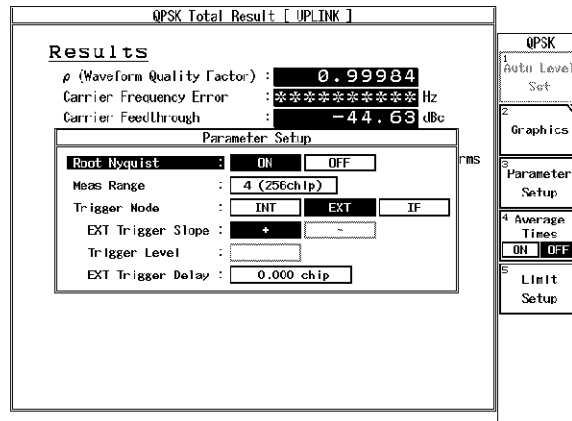

Figure 6-13 Setting of Measurement Parameters for QPSK (IQ Input)
4. On the R3267 Series, set the measurement parameters as shown in Figure 6-13.